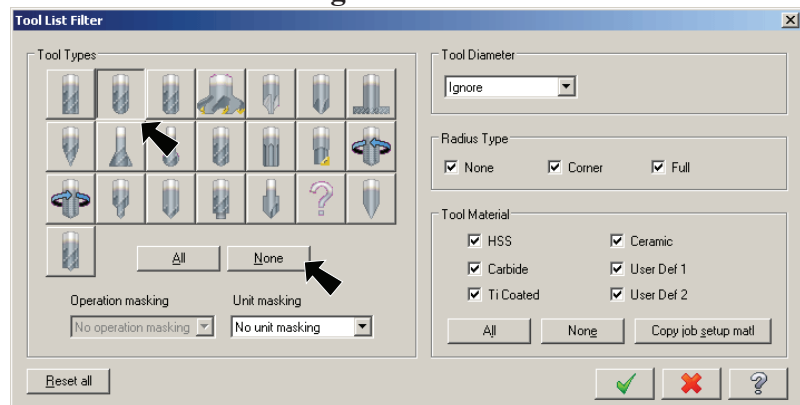

Fig. 12
Step 13. Click **None** button under **Tool Types**, **Fig. 12**.
Step 14. Click **Endmill2 Sphere** button second button top row), **Fig. 12** and click OK.